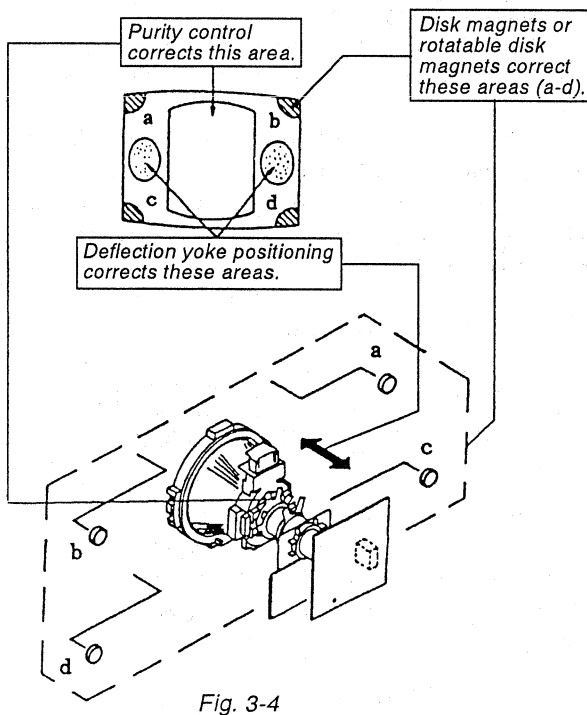

Fig. 3-4
9. If landing has not been obtained in the corner section, use the magnet to make corrections (Fig. 3-4).